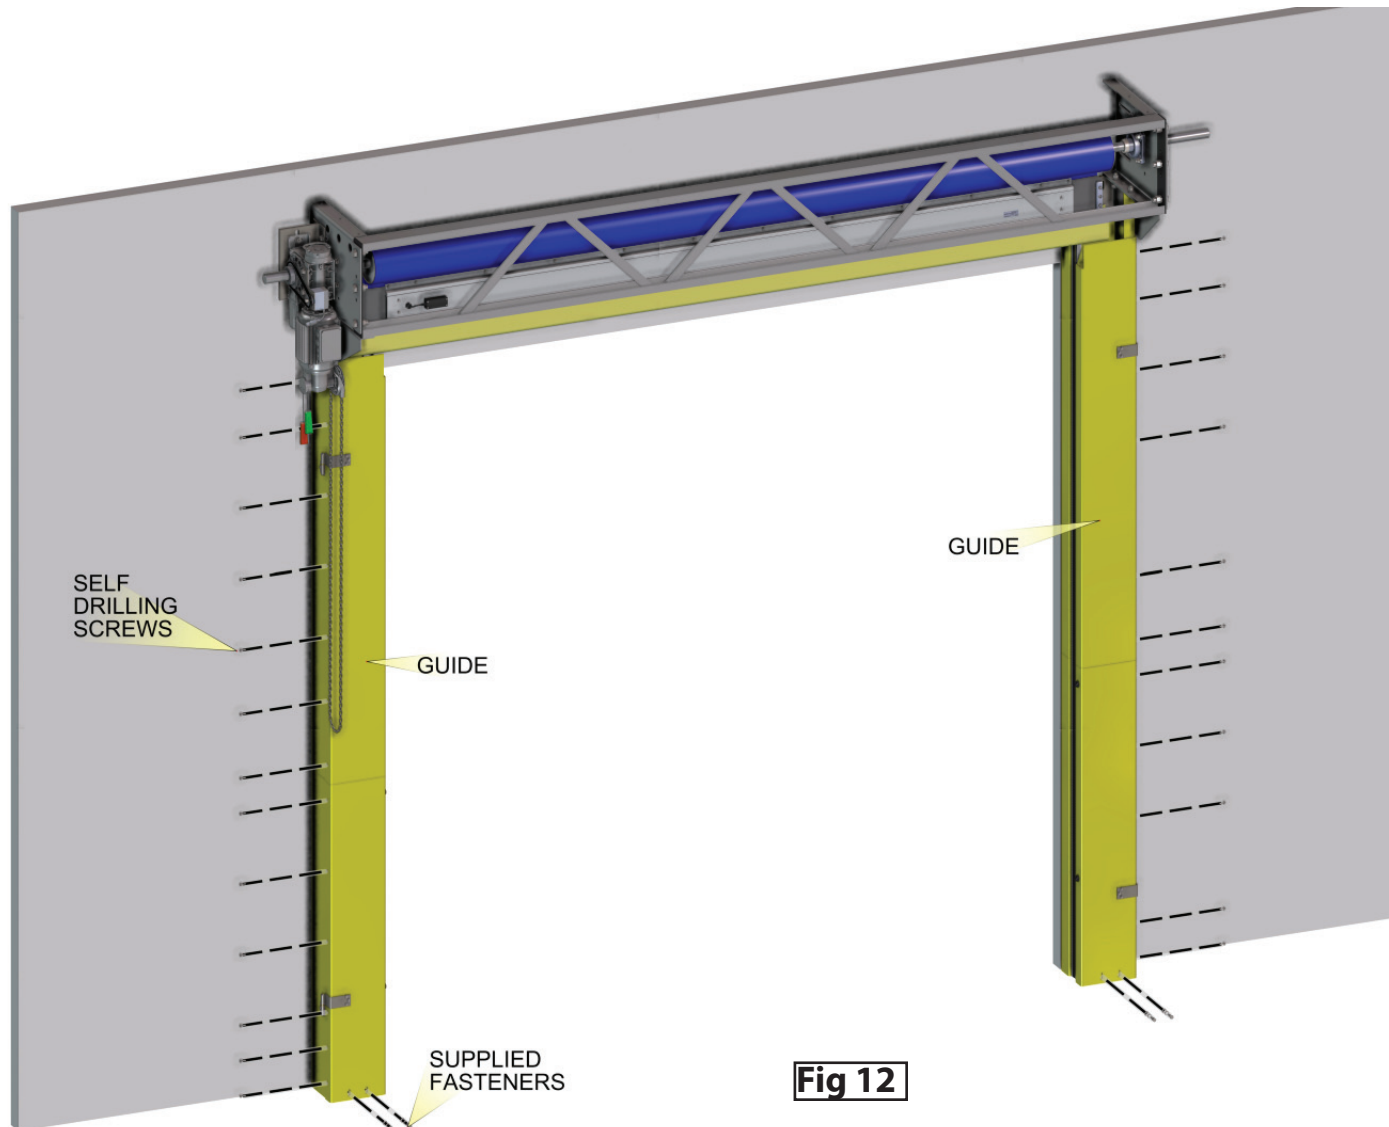

Fig 12
- Close the hinged guide assemblies and bolt in place using the self drilling screws provided as shown in FIG 12.
- Using the washers and acorn nuts provided attach the front guide to the floor bracket as shown in FIG 12.